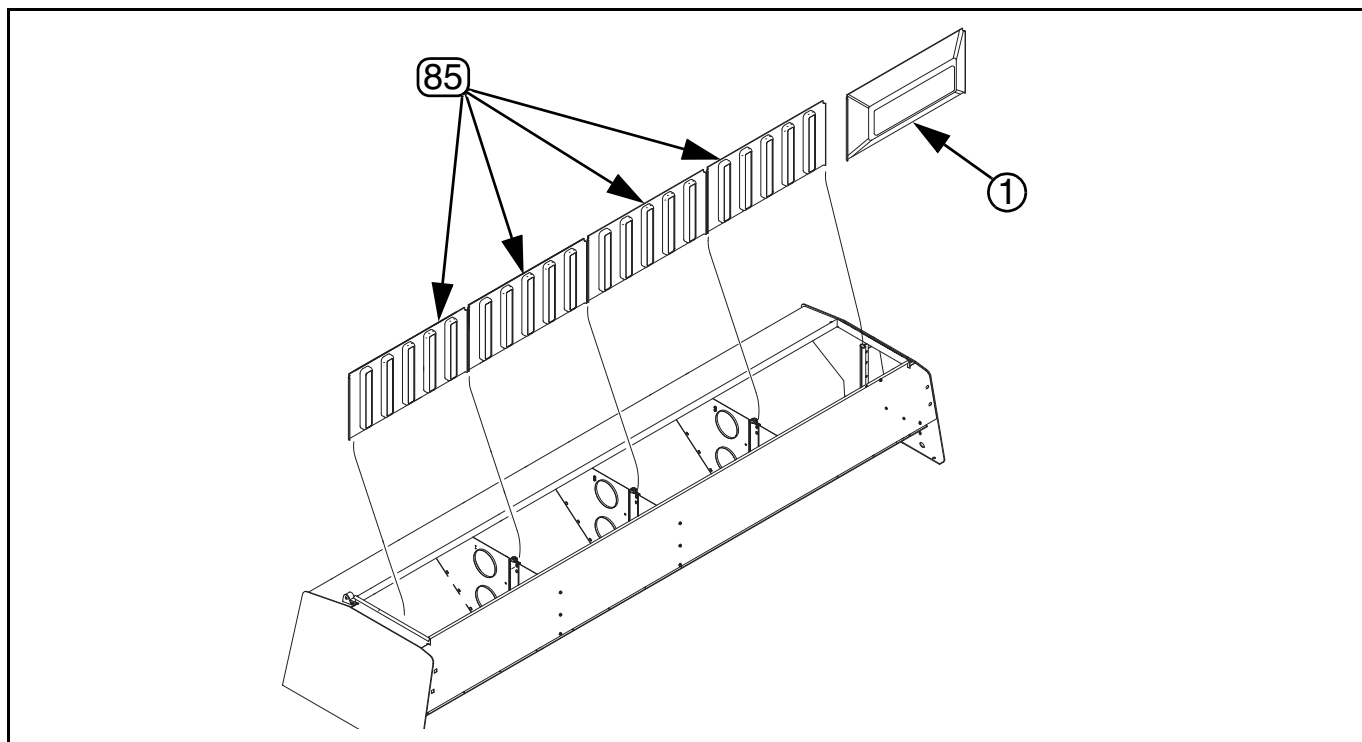

Figure 19
**Refer to Figure 19.**
11. Slide dividers (85) into divider clips on partitions.